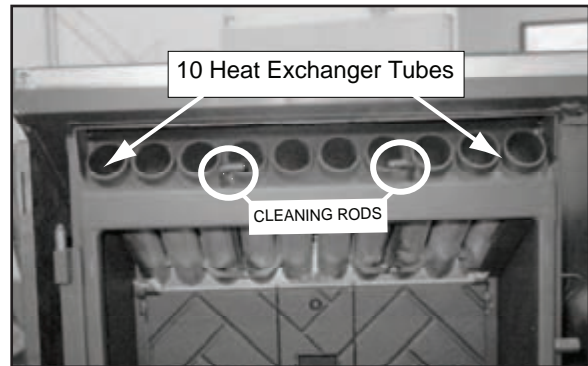

Figure 33.1
- b. Pull firepot cleaning rod OUT a couple of times to help shake debris loose. **See Figure 33.1 on page 33.** If rod is hard to pull, it may be necessary to use your firepot clean-out tool to chip away material that has built up on the bottom plate of the firepot and to push out any clinkers. Larger clinkers may have to be removed from the top of the firepot. Corn clinkers can be especially difficult to break up.
- Allow the appliance to completely cool down before pulling the cleaning rods. Turn the thermostat on and then immediately off to start the exhaust blower on its cycle time. It will pull fly ash out the exhaust instead of into the room. Open the cast front door to access the 2 cleaning rods. **Figure 33.1.**